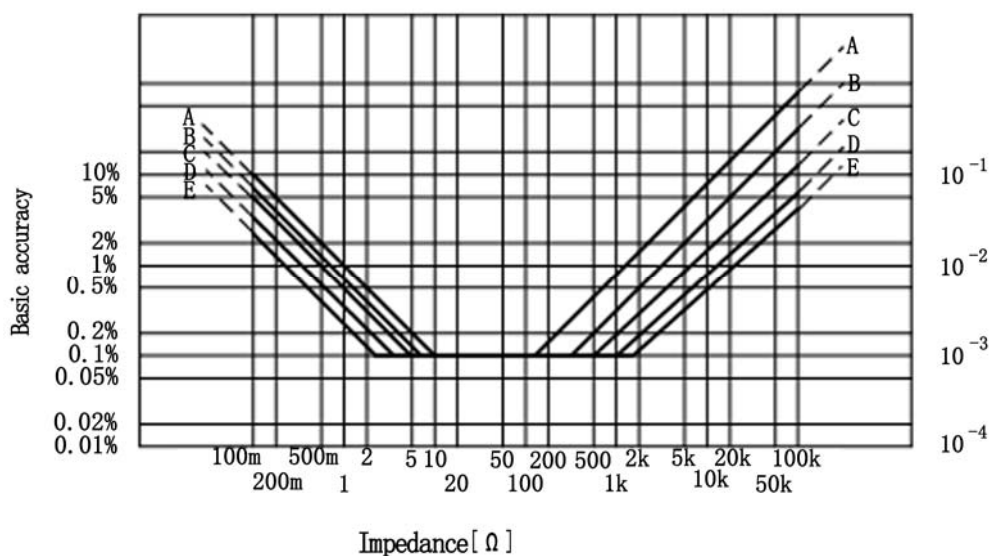

Figure 4-4 TH2828/A/S accuracy
A0: is the accuracy of L and | Z | when TH2828/A/S is connected with TH1776, the selection of A0 is shown as figure 4-4, select a suitable accuracy line in figure 4-5. If the signal is not the 3 point listed in figure 4-5, prolong the two lines closing to signal to confirm the demanded accuracy.
- (2) L_x is inductance of DUT
(3) According to figure 4-5, pick up accuracy line from figure 4-4